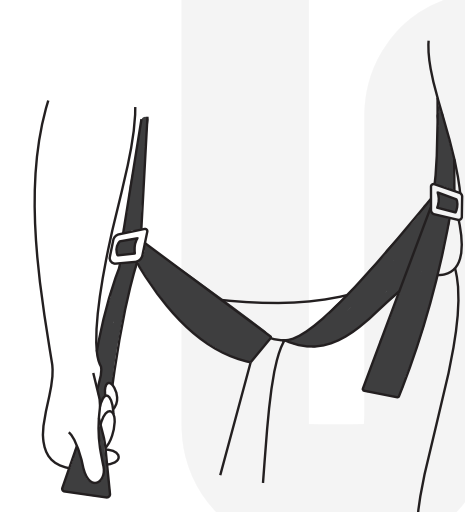

Fig 6
6. Once fitted, check for any twists, that all buckles are fastened correctly, any excess webbing is secured back through the elastic tidies, attachment points are positioned correctly, overall fit is snug but not over-tight or too loose. (Fig 6)